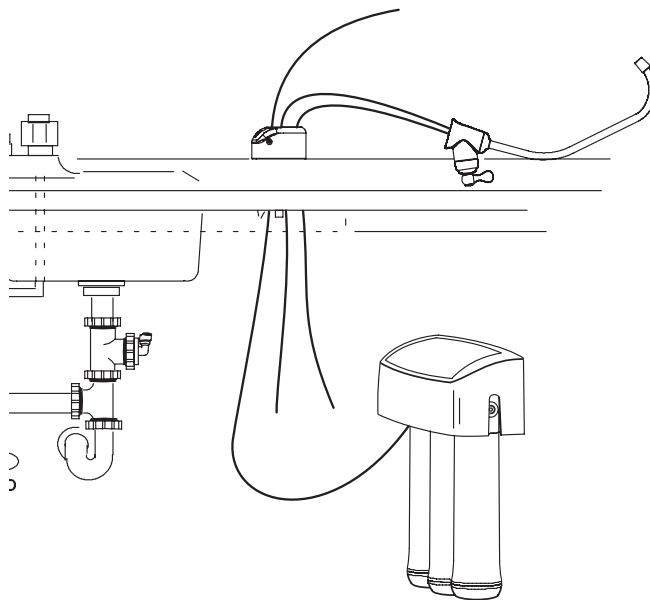

FIG. 13
4. Locate the faucet base. (The black and blue tubes are already connected to the faucet.) Insert these tubes into the sink hole until approximately one foot of tube length and the faucet base are left above the counter surface. Do not bend or kink the tubes in the process. See Fig. 13 and 22.